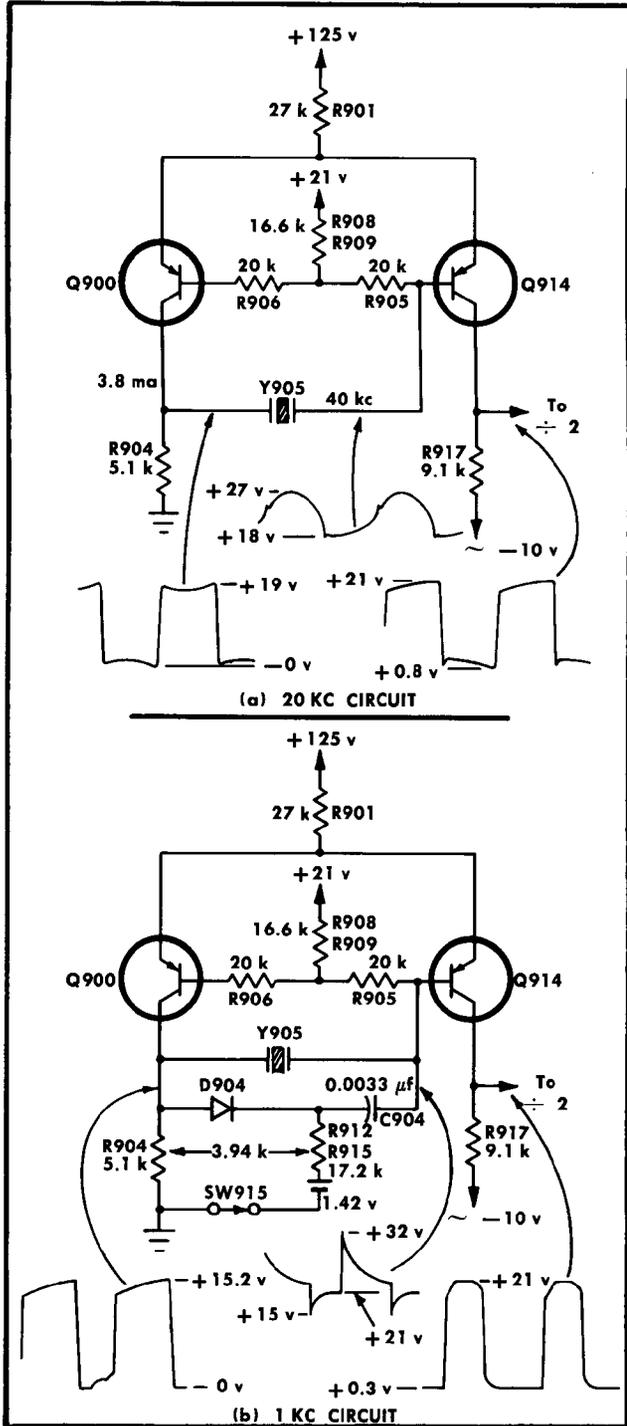

Fig. 3-1. Simplified Amplitude Calibrator astable circuits.
**Astable Oscillator.** Q900 and Q914 form a common-emitter astable multivibrator. The regenerative feedback circuit consists of the common connection of the two transistor emitters, and the crystal (Y905) from Q900 collector to Q914 base for 20-kc operation, or C904-D904 in parallel with the crystal for 1-kc operation. D904 is reverse biased (for 20-kc operation) by the voltage divider R912-R914; thus C904 is effectively switched out of the circuit. D904 is forward biased when SW915 connects R915 in parallel with R912, connecting C904 in parallel with Y905. Both circuit conditions are shown in simplified form in Fig. 3-1.